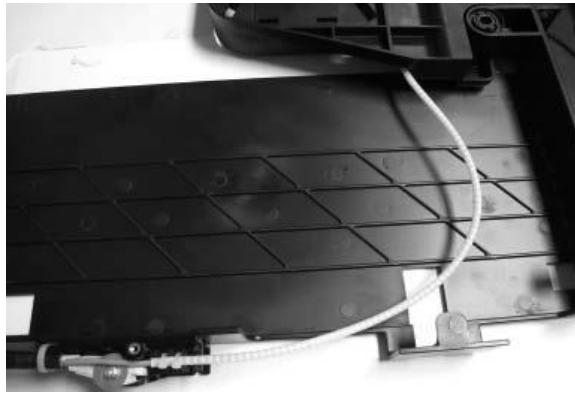

Fig.14
- k) Route Bend Limiting Tube (Component No12) through chassis, into splice management Section (Fig.14).
- e) Route Bend Limiting Tube (Component No 12) through chassis into splice management section (see Loose Tube Section, step (k) Fig 14, and page.6).